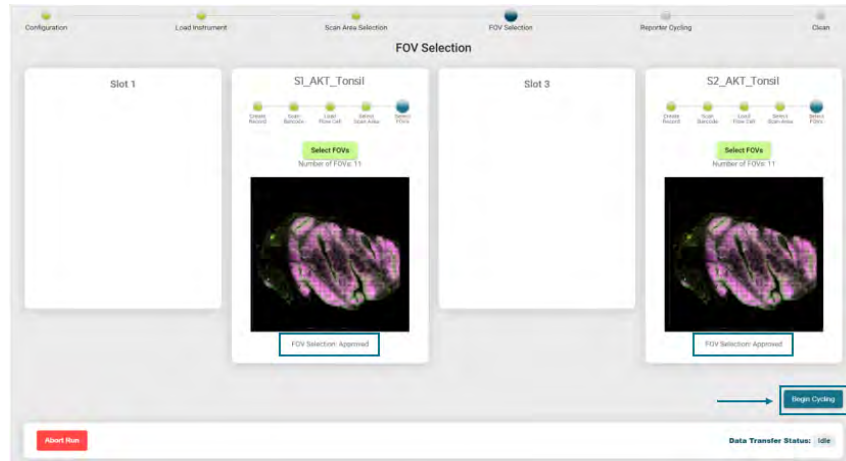

Figure 38: Begin Reporter Cycle
4. Once all flow cells have been approved, the Begin Cycling button will turn blue and be active (see Figure 38).